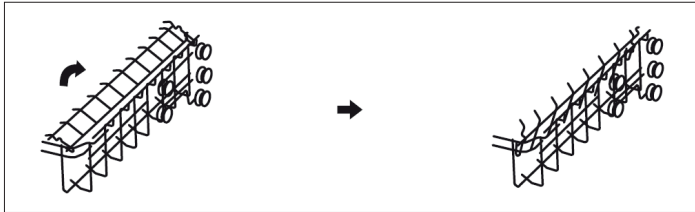

Fig. 9
- You can tilt the stand and adjust it in height (Fig.9).
- Long and sharp objects should be placed in front of the upper rack in a horizontal position as shown in Fig. 9.